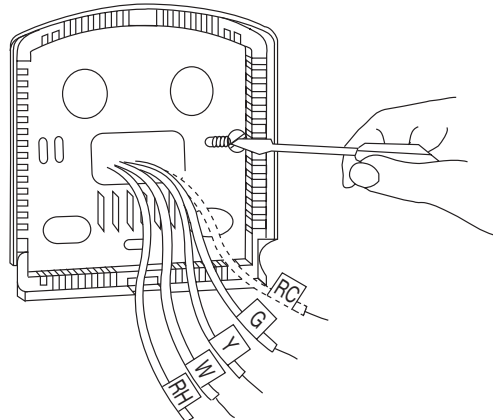

Figure 3
■ Reposition wallplate to wall, pulling wires through large opening. Insert mounting screws provided into wall anchor and tighten. See Figure 3.